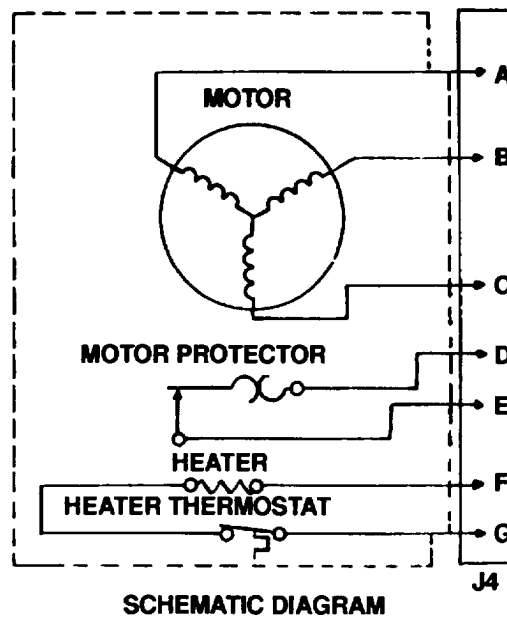

Figure 5-18. Compressor Schematic
- (1) Assuming that the power has been disconnected at the power source, and covers have been removed during access and testing, proceed as follows.
- (2) Remove the retaining hardware from the connector. Pull the connector out of the box to gain access to the solder connections.
- (3) Tag and unsolder wires.
- (4) Using tags and wiring schematic (Figure 5-18), solder wires to new connector. Remove the tags.
- (5) Secure the connector to the compressor junction box with four screws, lockwashers, nuts and a gasket.